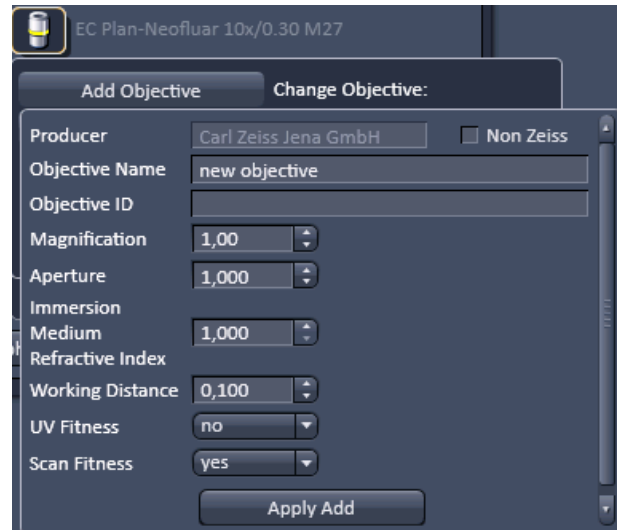

Fig. 451 Adding a new Objective – Editing field
- Click on the Add Objective buttons. The Create new Objective expansion window will appear (Fig. 451). The scrollbar allows access to the whole field.